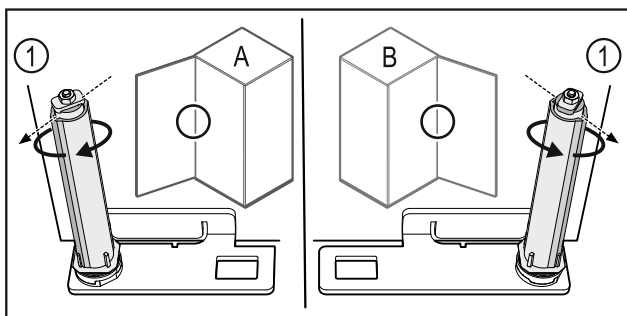

Fig. 50 Left-hinged (A) / Right-hinged (B)
- Turn the closing system against the resistance until the bar of the closing system Fig. 50 (1) points outwards.